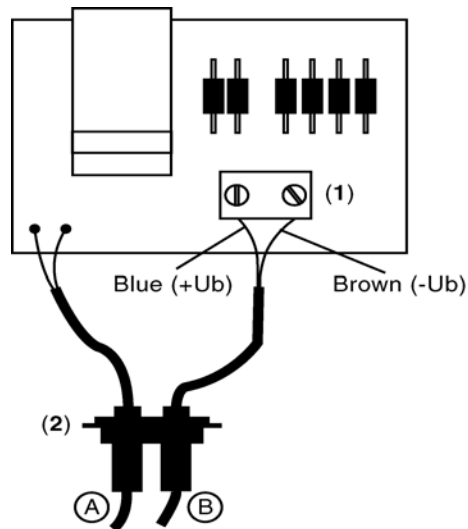

Fig. 2.172 Connecting the battery cable to desktop power adapter LT25W
4. Connect the supplied cable to the terminal (1) as shown in Fig. 2.172
5. Replace the cable feed-through (2) (Fig. 2.172) for a cable with the one supplied for two cables